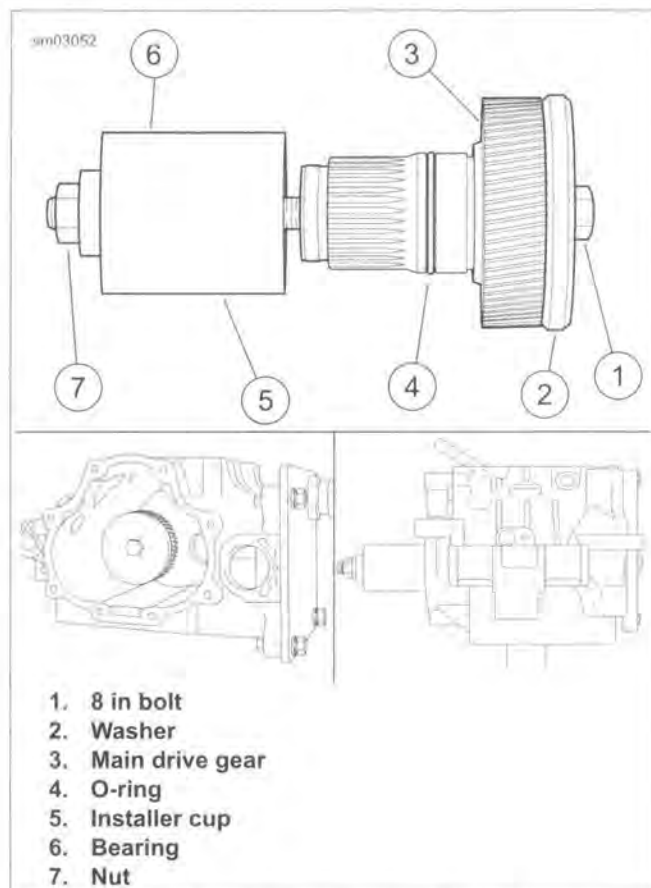

Figure 6-46. Installing Main Drive Gear (Typical)
See Figure 6-46. Make sure **new** O-ring (4) is installed onto main drive gear (3). Lubricate O-ring with clean engine oil.
1. See Figure 6-46. Apply a light coat of graphite lubricant to the threads of 8 IN BOLT (Part No. HD-35316-4A) (1) and insert through WASHER (Part No. HD-35316-7) (2) and main drive gear (3). Insert assembly into transmission case, through main drive gear bearing.
2. Place INSTALLER CUP (Part No. HD-35316-12) (5), BEARING (6) and NUT (7) over end of bolt.